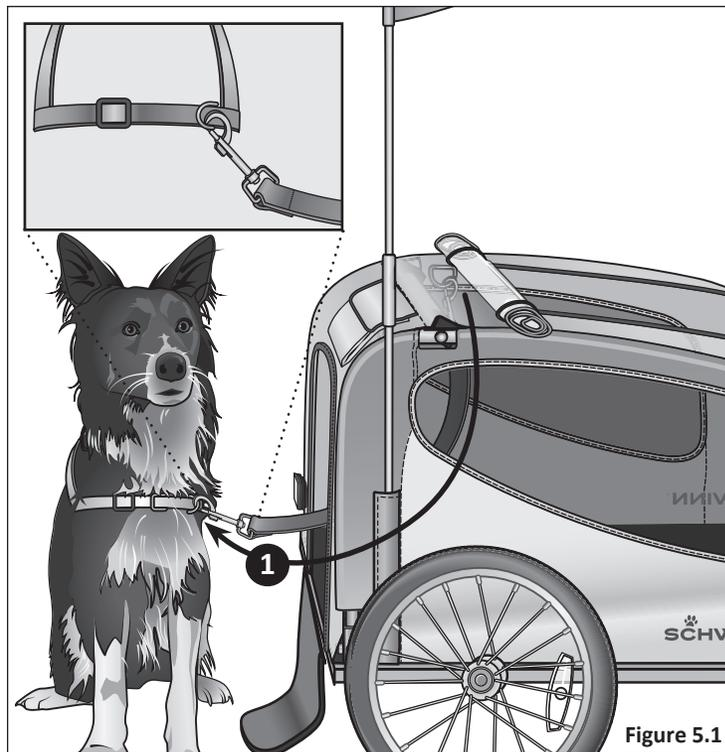

Figure 5.1
- 1 Pull the pet safety strap back through the pet door and clip it to the pet's harness. **Figure 5.1**